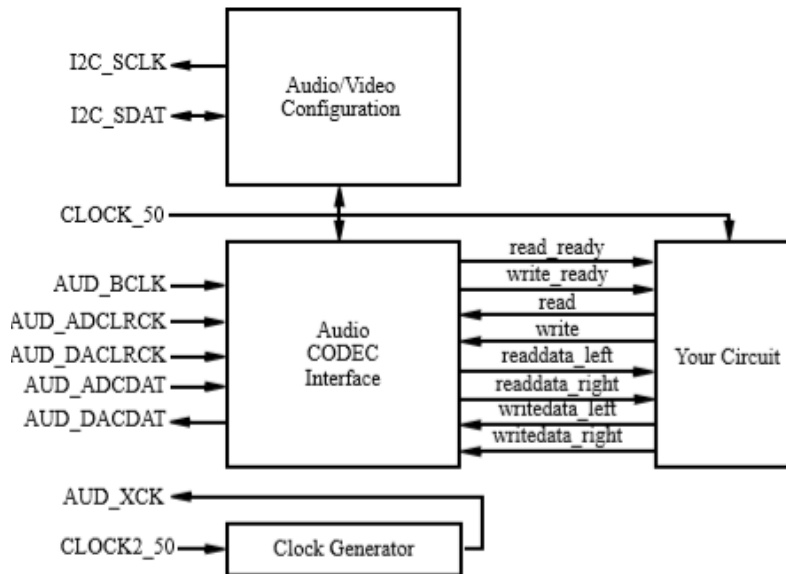

Figure 3: The audio system used in Lab 3.
To simplify this lab, a system that can record and play back sounds on the board is provided as a “starter kit.” The system comprises a Clock Generator, an Audio CODEC Interface, and an Audio/Video Configuration module (Figure 3). For this lab, we will assume that our audio will be split into two *channels*, left and right, that are intended to be played from multiple speakers (*e.g.*, left and right earbuds/headphones).
The left column of signals in Figure 3 are the inputs and outputs of the system. These I/O ports supply the clock inputs and connect the Audio CODEC and Audio/Video Configuration modules to the corresponding peripheral devices on the DE1-SoC board. The right column of signals connects the Audio CODEC Interface module to your circuit and allows your circuit to record sounds from a microphone and play them back via speakers.
- You should omit top-level simulations for this lab, as mimicking the AUD and I2C signals is unreasonable. However, you should still include a top-level block diagram and description. Do *not* just include Figure 3 – we need to see/know what happens in “Your Circuit”!
Design Procedure <ul style="list-style-type: none">▪ Do discuss Task #1, but explicit diagram may be unnecessary; include and discuss designs for ROM and FIR filter modules.▪ Top-level block diagram can build off of Figure 3 but should include connections between your defined modules.	14 pts